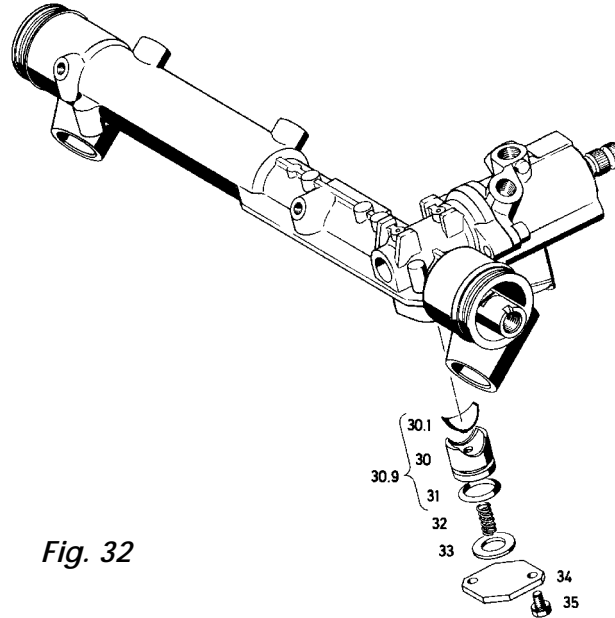

Fig. 32
Insert the yoke (30), with the insert foil (30.1) but without the O-rings (31), into the housing (1) (**Fig. 32**).